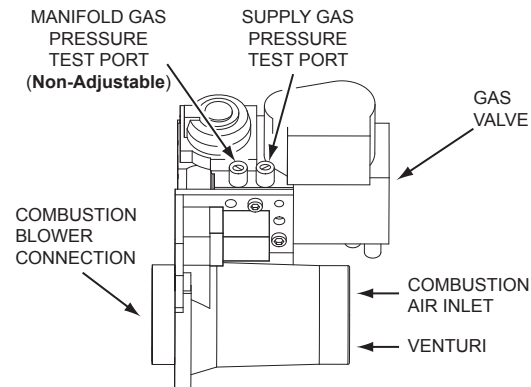
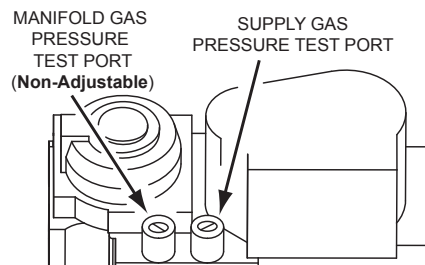

Figure 57. Gas Valve/Venturi Assembly Top View
Figure 58. Gas Valve Top Detail View
4. Wait five (5) minutes for any residual gas to clear.
5. Connect the manometer to the supply gas pressure port on the gas valve. See *Figure 57* (page 49) and *Figure 58* (page 49).
Water heaters covered by this manual have test ports for supply and manifold gas pressure readings on the gas valve. Using a small flat tip pocket screw driver - open the needle valve inside the supply gas pressure test port one full turn only; turn the needle valve screw counter-clockwise to open the valve. Slide the manometer sensing tube over the top of the test port. See *Figure 57* (page 49) and *Figure 58* (page 49).